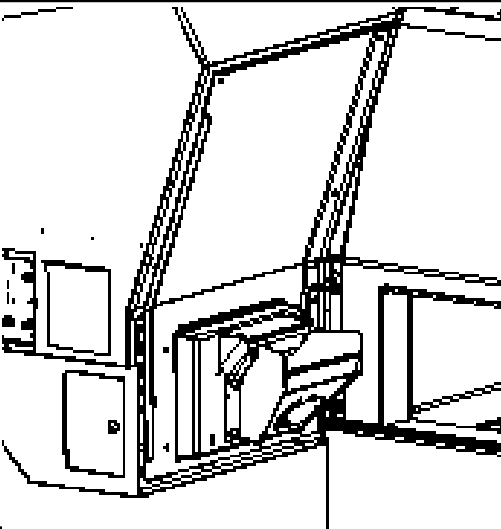

Fig. 13
2. Open hopper swing plate as shown in Fig. 13